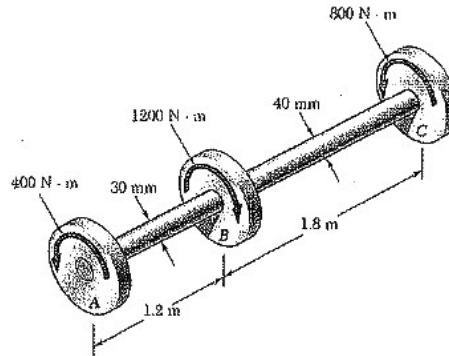

Fig.6
- (b) The torques shown in Fig.6. are exerted on pulleys A, B, C. Knowing that both shafts are solid and made of brass ($G = 39 \text{ GPa}$), determine (a) shearing stress in shaft AB (b) shearing stress in shaft BC (c) the angle of twist between A and B (d) the angle of twist between A and C.